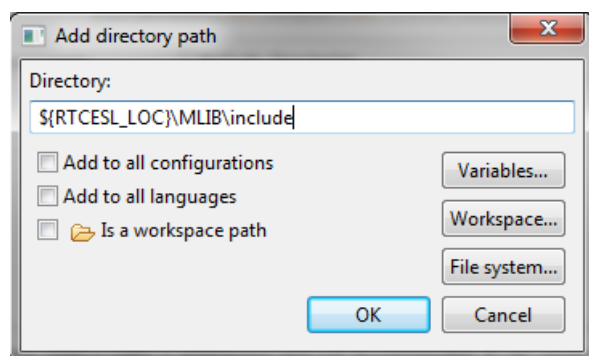

Figure 1-12. Library include path addition
28. Click the Add... button on the right, and a dialog appears. See Figure 1-12.